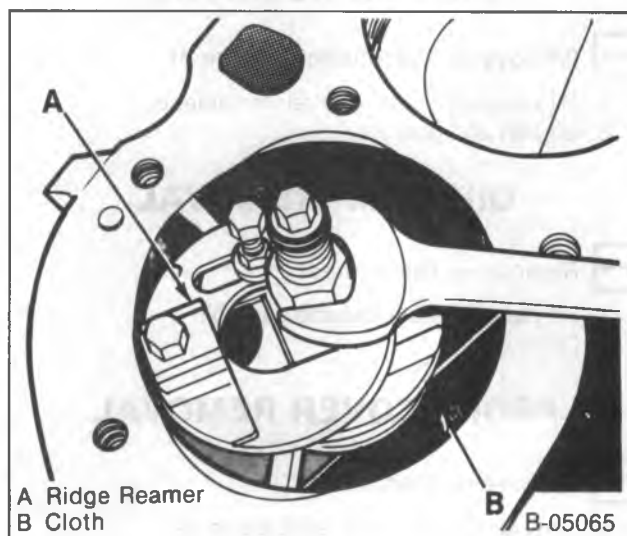

Figure 9—Removing the Cylinder Ridge
Remove or Disconnect (Figures 9 and 10)
- Perform the cutting operation with a ridge reamer (figure 9).